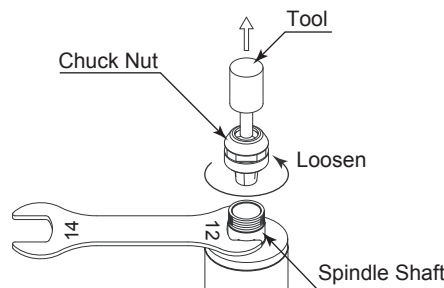

Fig. 4
- ① Remove the tool according to the section "7. CHANGING THE TOOL" procedure above and remove chuck nut assembly (Fig. 4).